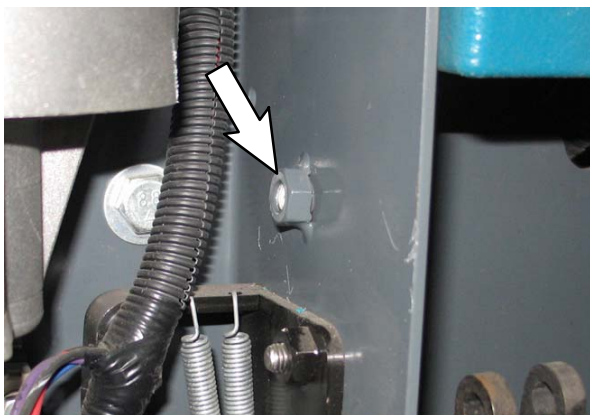

FIG. 3
3. Remove the weldnut from the steering support channel. (Fig. 3)